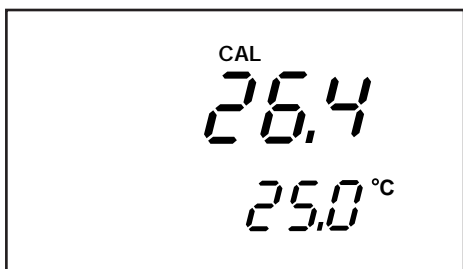

Figure 18
5. Press the ▼ or ▲ keys to offset the temperature to the measured value from step 4. —See Figure 18.